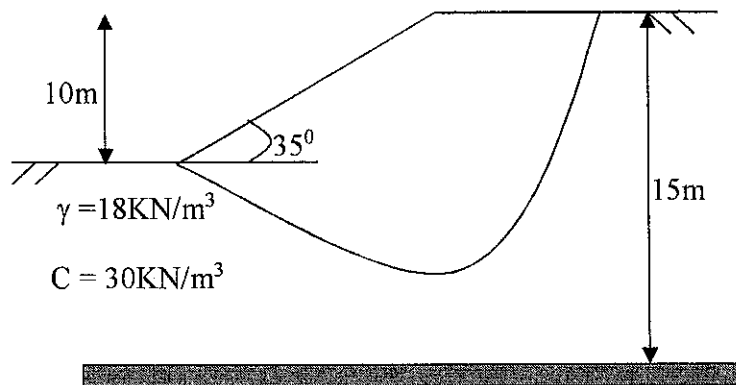

Figure 4(a)/ Rajah 4(a)
- (a) Using the Taylor's Stability chart, determine the safety of the slope as shown in Figure 4(a) below.